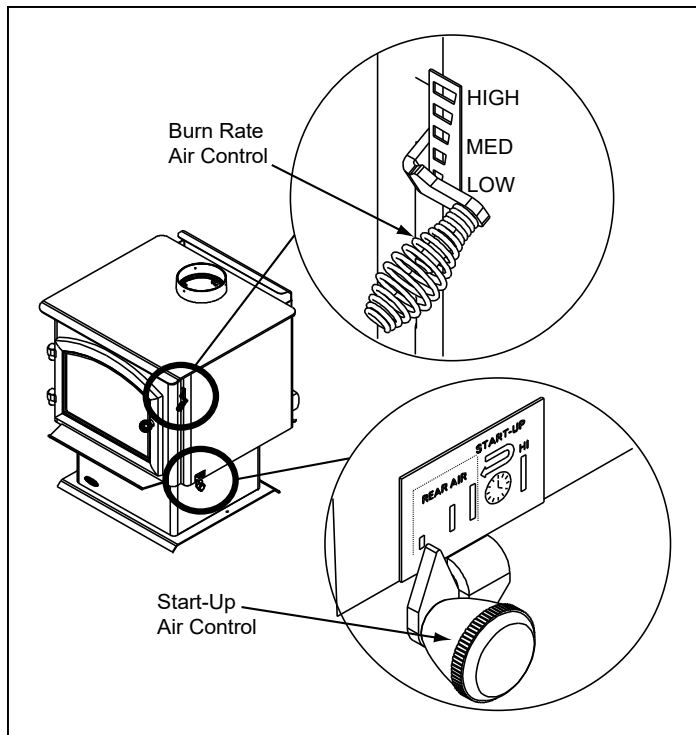

Figure 10.1
2. **Second Stage:** The next stage of burning, the secondary stage, is the period when the wood gives off flammable gases which burn above the fuel with bright flames. During this stage of burning it is very important that the flames be maintained and not allowed to go out. This will ensure the cleanest possible fire. If the flames tend to go out, it is set too low for your burning conditions. The air control located at the upper right hand corner is used to adjust for burn rates. This is called the Burn Rate Air Control (**Figure 10.1**).
- Then activate the ACC timer system by pushing the knob all the way back toward the appliance to “HI” then pull forwards towards the front of the appliance until the knob stops (**Figure 10.1**).